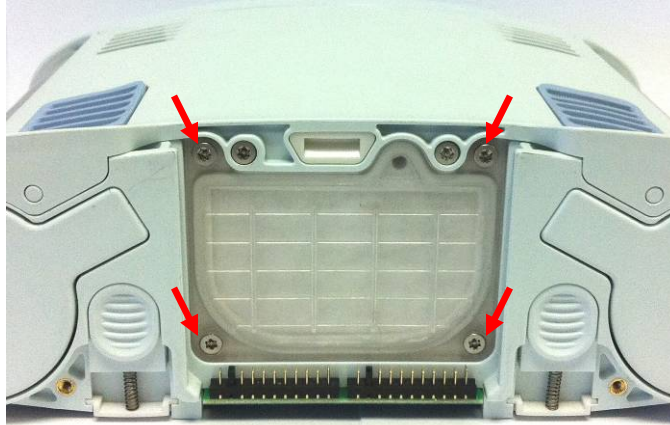

Figure 2: Filter box lid screws
2. Place the device on its back and remove the four screws connecting the filter box lid to the device (Figure 2).
1. Insert the new filter into the allotted space on the chassis and re-install the four screws that connect it (Figure 2). Tighten screws to 6 in-lbs.